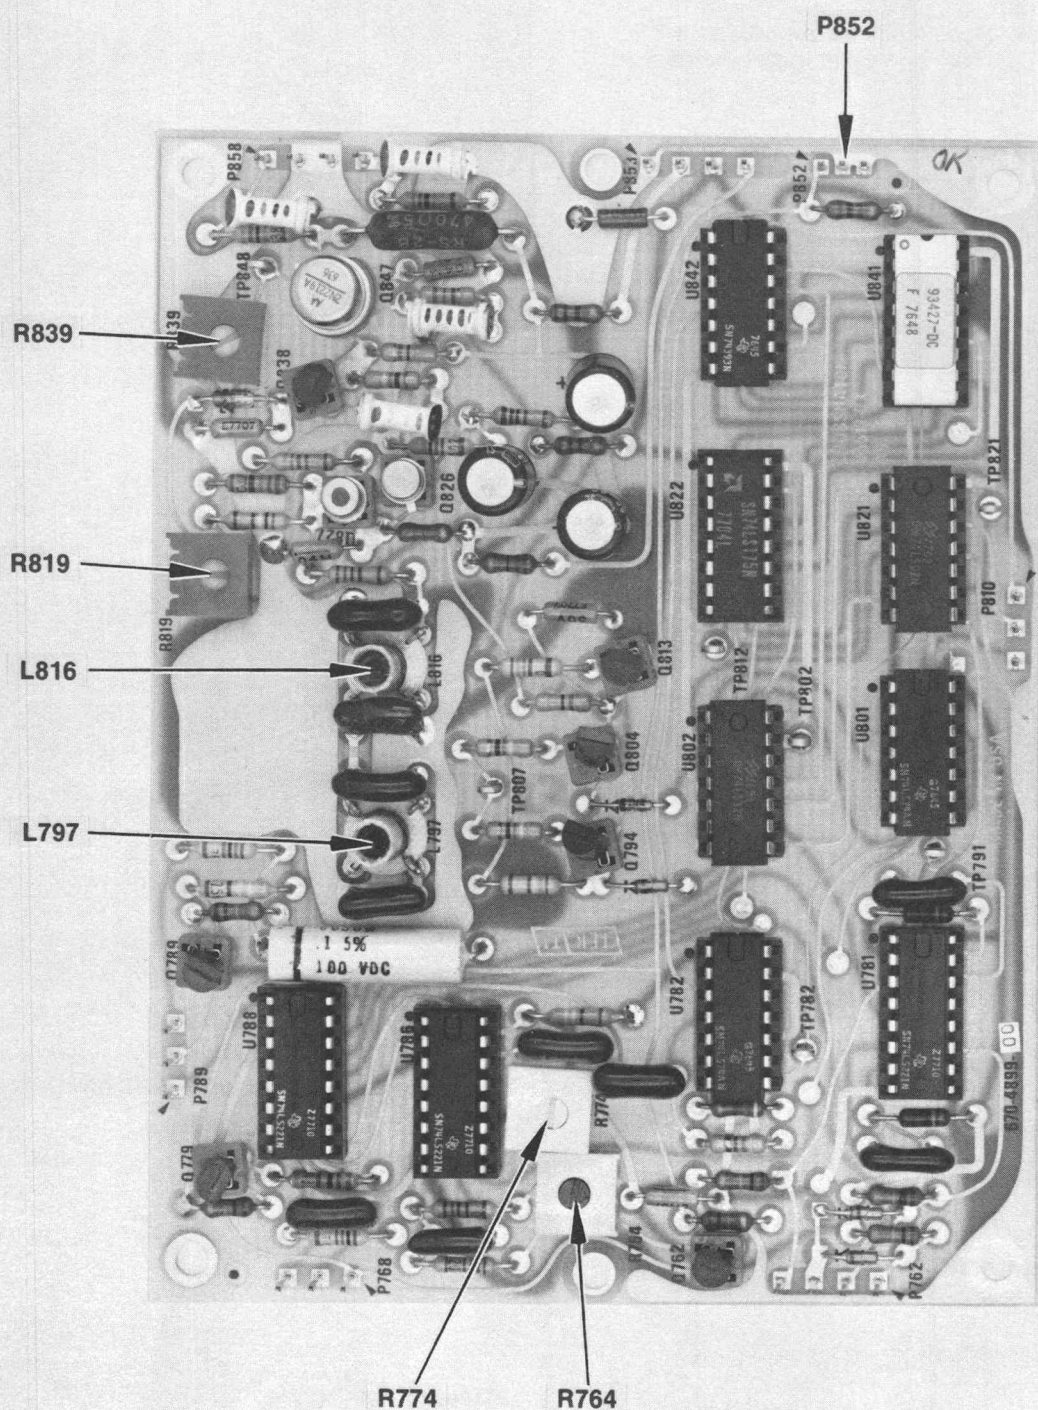

Fig. 6-25. Crosshatch Circuit Board.
c. ADJUST—Sync Pulse Shaping, L797 and L816 (Fig. 6-25), for optimum square corners on the sync pulses.
c. ADJUST—Convergence Gain, R839 (Fig. 6-25), for 300 mV.
b. Check that the jumper P852 is in the 2-3 position. See Fig. 6-25.
e. ADJUST—the 315 kHz Adj, R774 (Fig. 6-25), for 6.3 μ s between pulses.
e. ADJUST—the 630 kHz Adj, R764 (Fig. 6-25), for 3.18 μ s between pulses.
c. Change plug-jumper P852 (Fig. 6-25) on the Convergence board to pins 2 & 3.